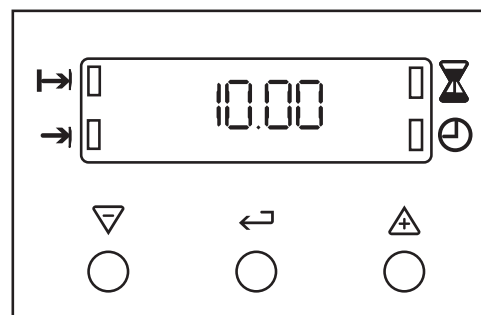

Fig.9.
- i) Ensure the electricity supply is switched ON and that the correct time is displayed, e.g. 10.00 a.m. as Fig. 9.